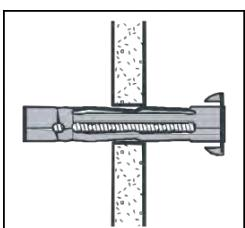

Figure 1
Step 4: Insert the wall anchor and tap lightly with the hammer to seat the anchor into the drywall as shown in **Figure 1**.